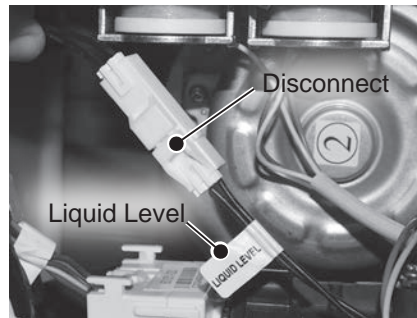

Figure 41 - Disconnecting liquid level
- 19 Locate the liquid level wiring harness and disconnect it. See Figure 41.